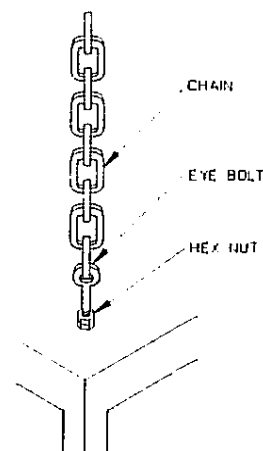

Fig. 1
1. The 270BCC cabinet contains eight (8) 5/16" weld nuts located on top and bottom corners to be used with eyebolts or threaded rods for suspended installation. The recommended style of attachment is shown in Figure 1, and described in Steps 3 through 5.
4. Firmly secure four chains of equal strength to a firm structural support. Wire of equal or greater strength may be used in lieu of chains. (Fig. 1)